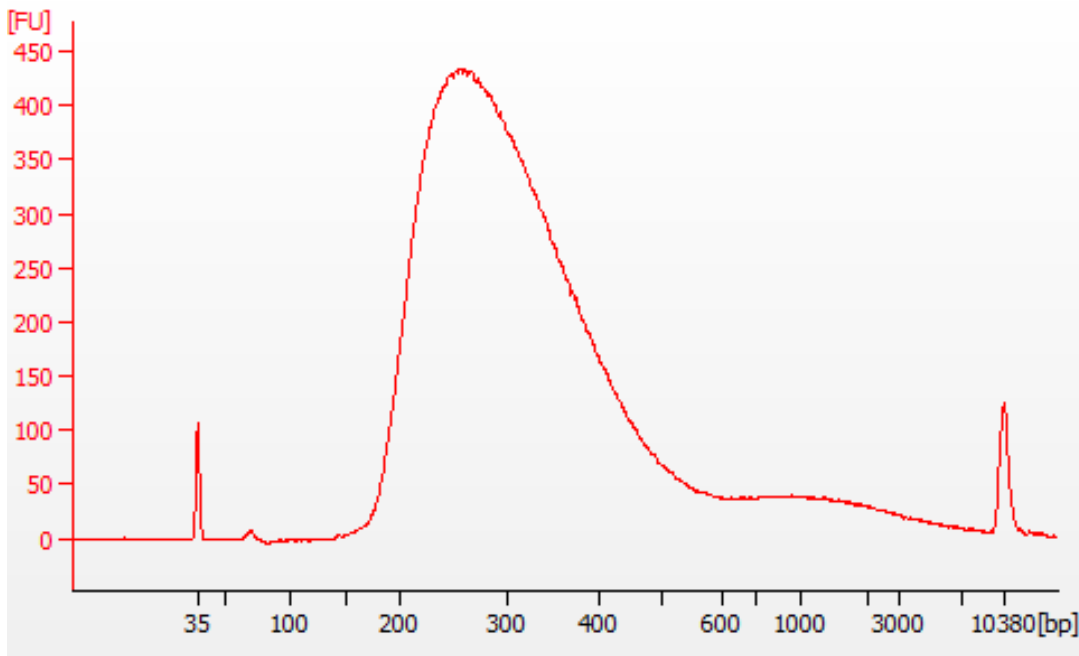
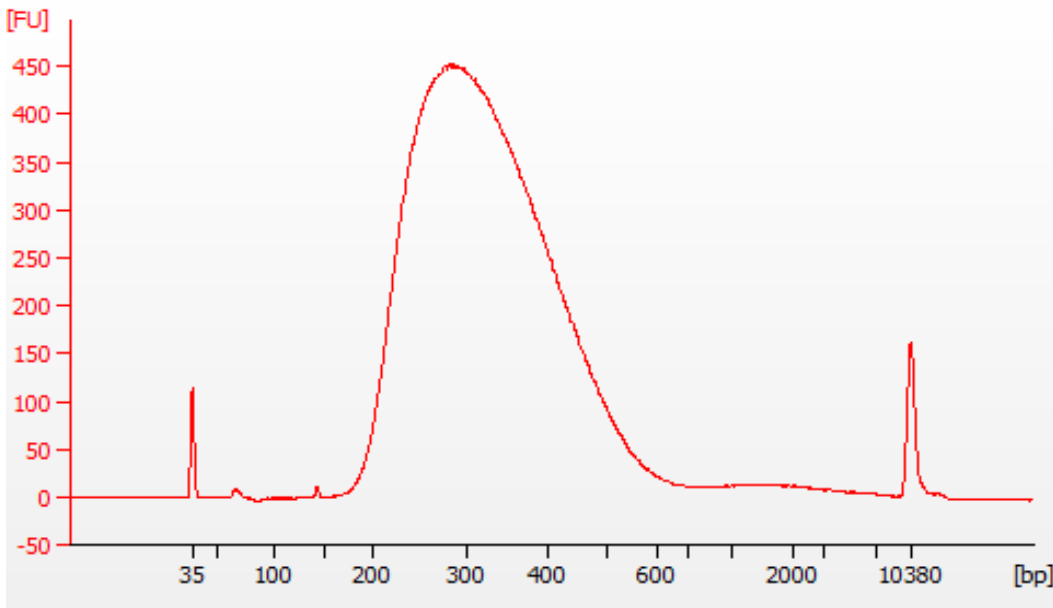

Figure 3: Example of an amplified HyperPlus sample library analyzed using the Agilent Bioanalyzer High Sensitivity DNA assay
Figure 4: Example of an amplified HyperPrep sample library analyzed using the Agilent Bioanalyzer High Sensitivity DNA assay
- Pre-capture libraries should have an average fragment size distribution at ~ 320 bp (Figure 3, Figure 4) with a range setting at 150 to 1000 bp on the Bioanalyzer. Sharp peaks may be visible in the region <150 bp. These peaks correspond to unincorporated primers, primer-dimers or carryover adapter dimers and will not interfere with the capture process.